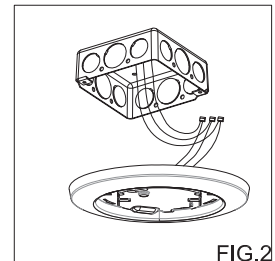

FIG.2
3. Adjust the color to desired one, by sliding the selector switch. (FIG.2)